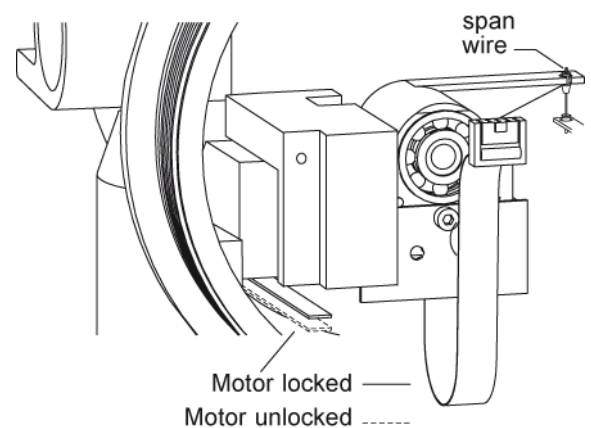

Figure 3.4 Motor block (un)locked
- Locate the transport bracket (see figure 3.4).